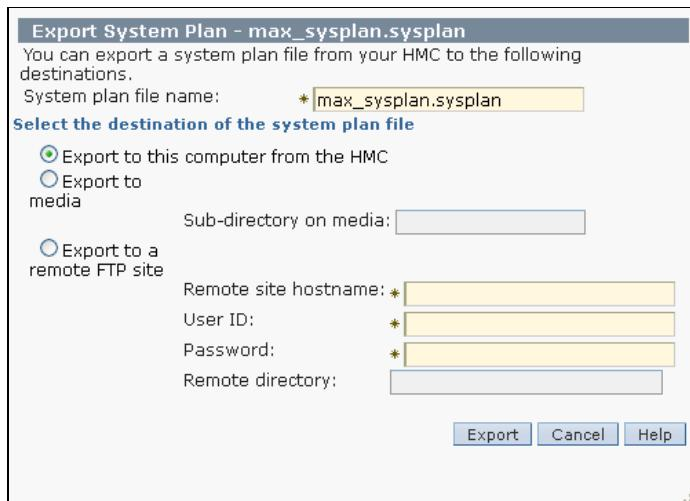

Figure 2-6 Export System Plan window
2. Click **Export System Plan** either from the Tasks menu or the content Tasks link in the lower portion of the window. A dialog box opens asking where you want to export the system plan (Figure 2-6). In our example, the name of the sysplan file is `max_sysplan.sysplan` and the target is to local computer directory.